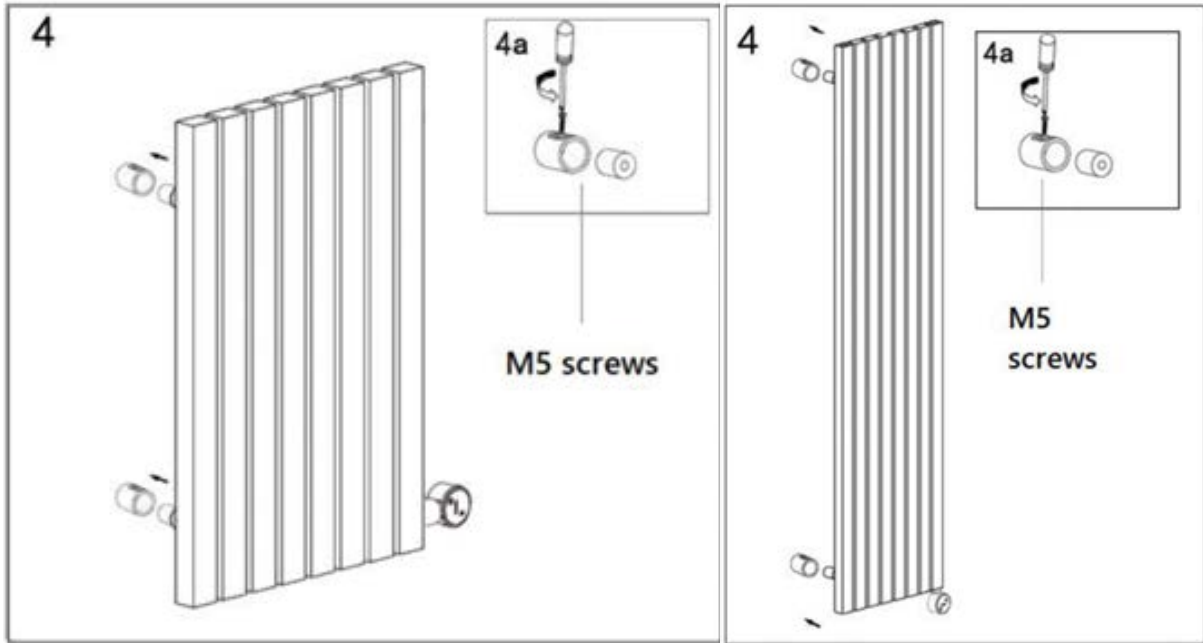

Figure 5 | Securing the radiator to the wall (horizontal and vertical)
- b. Using a 10mm drill bit, drill four holes in the marked locations and push the Wall Plugs (C) inside.
- c. Position the Wall Brackets (D) over the holes and fix in place using the Washers (E) and Wall Screws (F)
- d. Lift the radiator, slide the Radiator Brackets (A) inside the Wall Brackets (D) and fix in place with the M5 Screws (G) as shown in **Figure 5** (page 10). The element should be at the base of the radiator, and the bleeding valve should be on the top of the radiator, facing the wall.